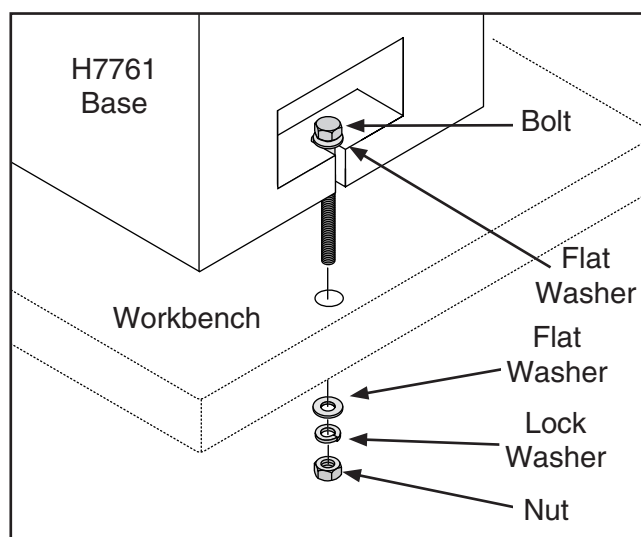

Figure 3. Mounting machine to the workbench.
2. Mount the sander to the workbench with bolts that are long enough to exceed the thickness of your workbench and the sander base. Secure each bolt with flat washers, a lock washer, and a hex nut as in **Figure 3**.